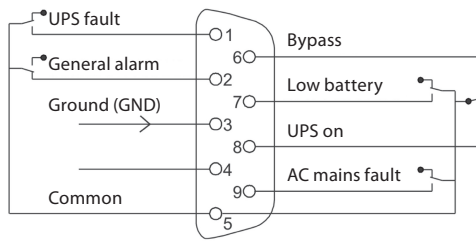

Fig. 10. AS400 dry contact pin-out.
- UPS has a dry contact card for the AS400 communication protocol, it provides digital signals in a free potential way, with a maximum applicable voltage and current of 240 V ac or 30 V dc and 1A. Pin-out of the DB9 connector are stated in figure 10 and detailed in table 3.